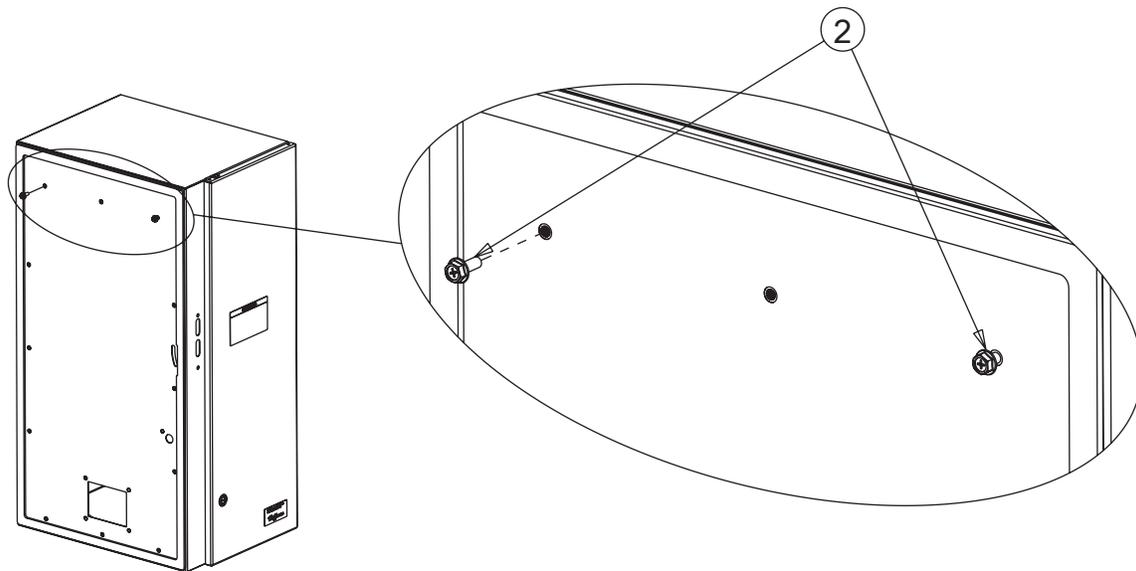

Figure 1A
3. Referring to Figure 1A, thread two M6x16mm bolts (Item 2) from the outside of the SEQUESTR enclosure halfway into the two outer holes of the upper row.